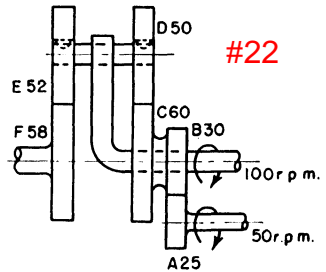

Fig. P 11.12
11.12. Determine the speed and direction of rotation of gear *F* in Fig. P 11.12.